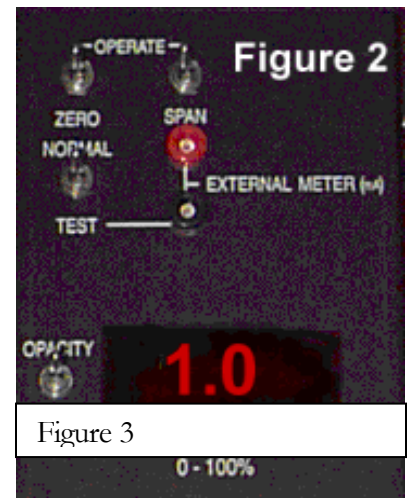

Figure 3
4. On the Service Module (Figure 3) make sure the **normal/test** switch is in the normal position.